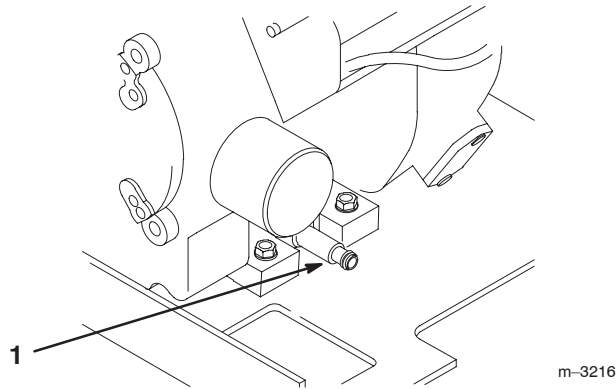

Figure 21
5. Open the drain valve by turning it counterclockwise, pulling out as you turn it (Fig. 21).